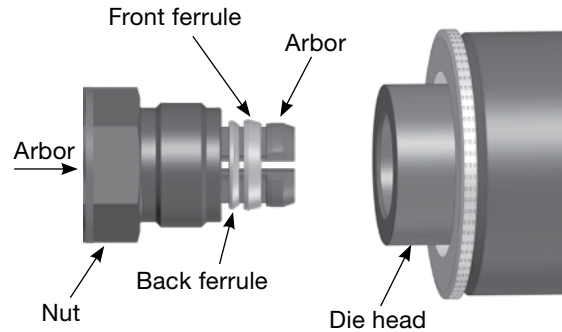

Fig. 1 Nut and Ferrule Orientation
3. Insert the arbored nut and ferrule set into the Swagelok medium-pressure die. Thread the nut into the die head to finger-tight. Remove the arbor, leaving the nut and ferrules in the die head. The orientation of the **nut, rear ferrule, and front ferrule** should be as shown in Fig. 1.